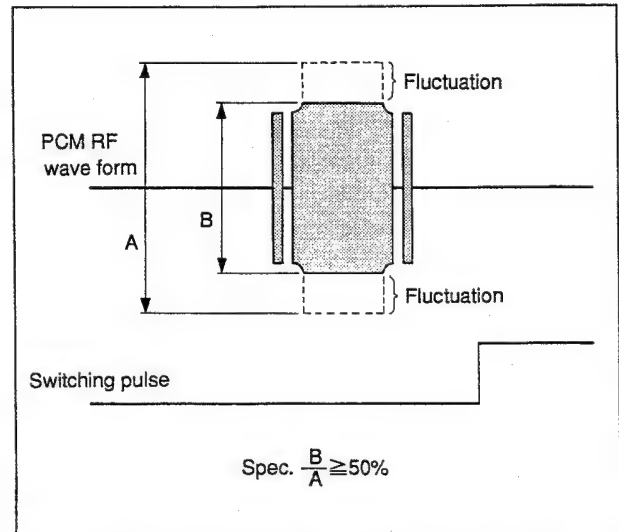

Fig. 6-9-5 Confirmation of PCM RF wave form
15. Confirm the CH1 wave form (PCM RF) of the oscilloscope. The RF level between 5 sec. thru. 10 sec. portion of the tape is 50% against the level between 0 sec. thru. 5 sec. portion of the tape. (See Fig. 6-9-5.)
17. Perform step 11 thru. step 15, and confirm the specification of the PCM wave form at the video inserted portion is met (specification is the same as Fig. 6-9-5.)